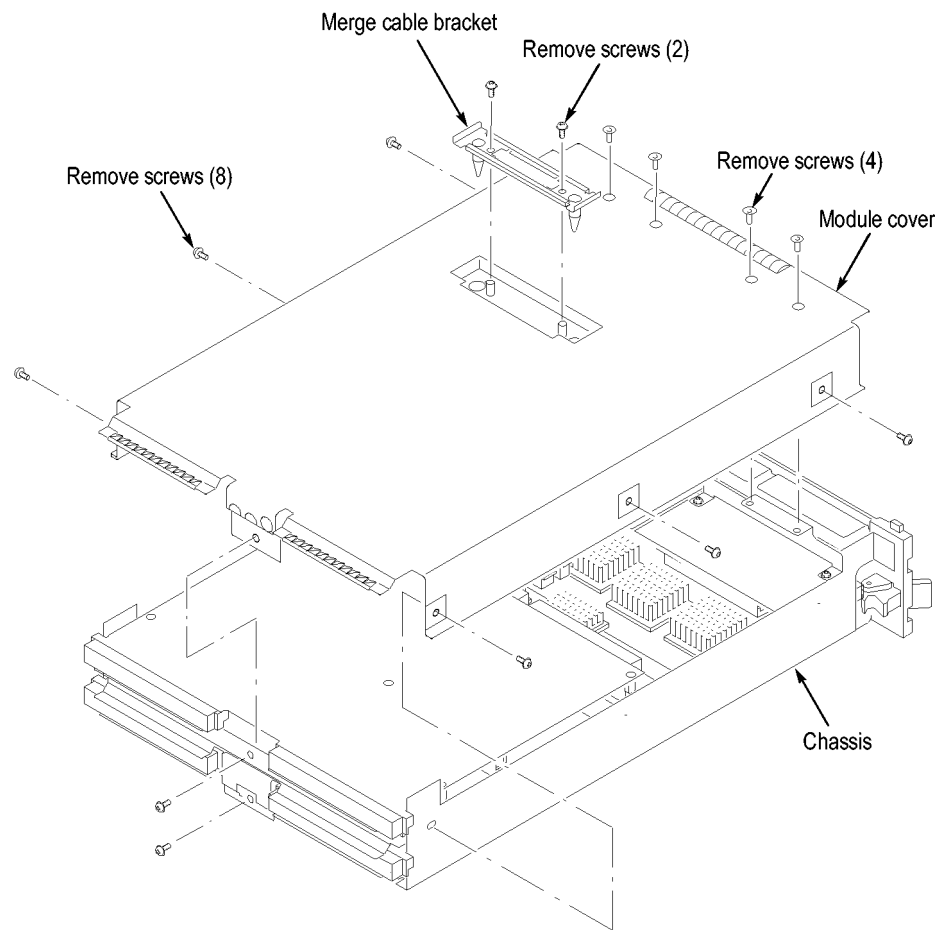

Figure 52: Removing the cover
4. Remove the screws from the module cover with a screwdriver with a T-10 Torx tip. (See Figure 52.)